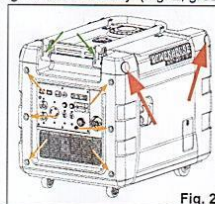

Fig. 2
2. Remove the six 8mm bolts holding the front and rear covers on (Fig. 2, orange arrows).
3. Remove the rubber caps at each of the four top corners of the generator (Fig. 2, red arrows)
4. Remove the front (control panel end) handle by removing the 8mm Allen head bolt from each side of the generator and then removing the center bar (between the two hinges). (Fig. 2, green arrows)
5. Remove the 5mm Allen head pivot bolt from the folding handle hinge, from either side (only one side) of the folding handle assembly. (Fig. 2, green arrows)